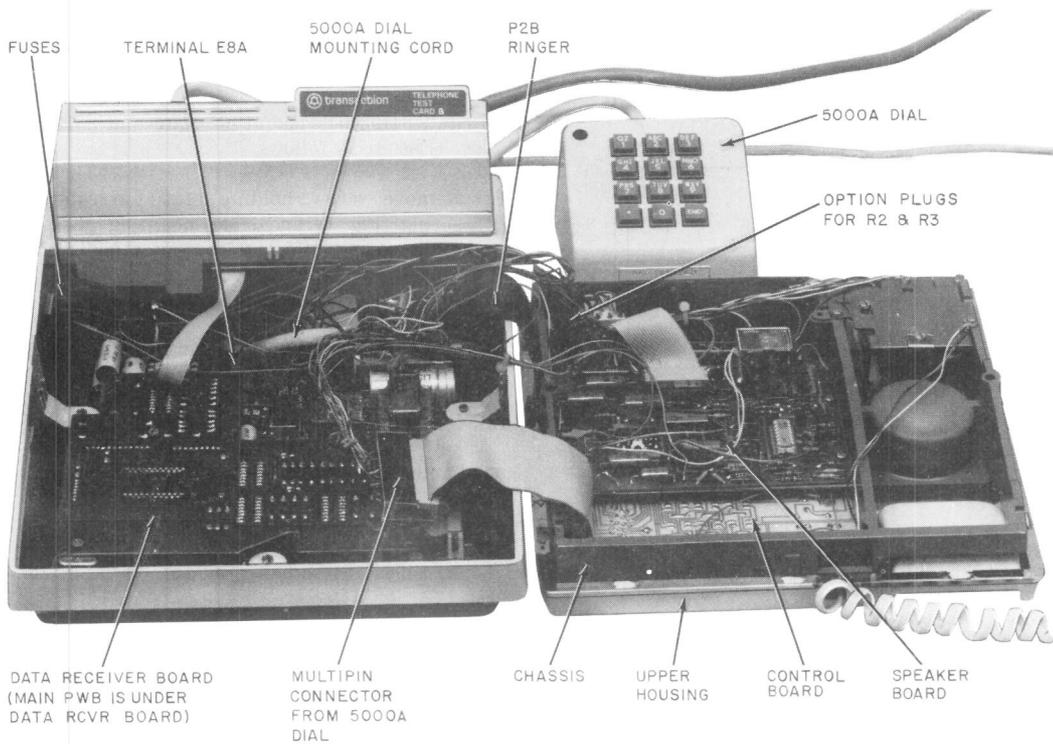
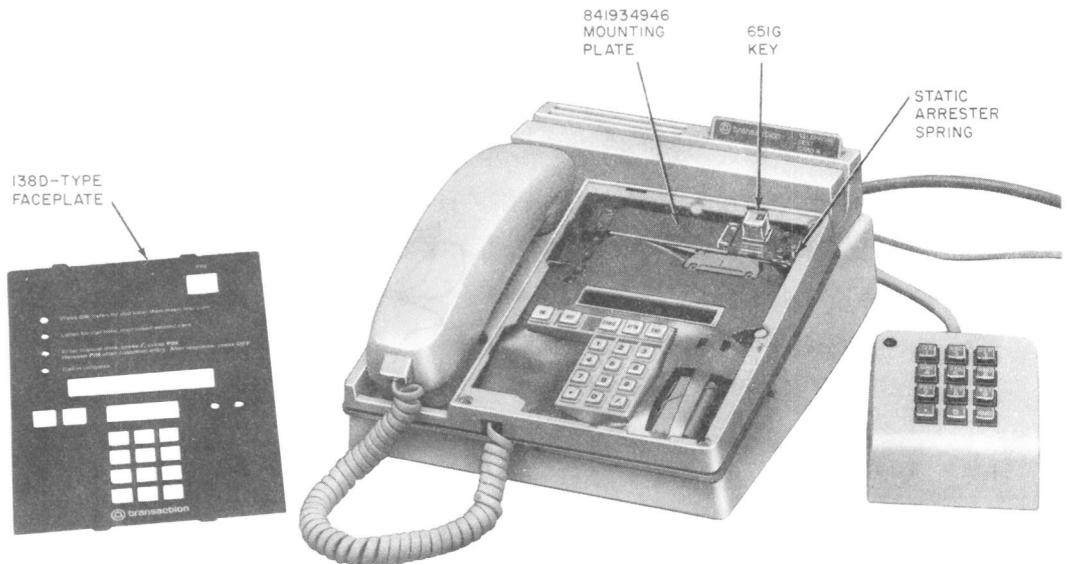

Fig. 6—5100AM Transaction II Telephone Set Base With Upper Housing and Chassis Laid Aside, 5000A Dial Connected
Fig. 8—5100AM Transaction II Telephone Set With Faceplate Removed for Installation of 651G Key
- (2) Install 841934946 mounting plate and 651G key (Fig. 8) as follows:
- (a) Remove screw holding static arrester spring (Fig. 8) and slide mounting plate under the spring. Replace the screw holding the spring and the associated lead. This should secure right side of mounting plate.
- (b) Secure left side of mounting plate with (2) 840694194 screws.
- (d) Secure right side of key using the other (2) 840694194 screws provided.
- (3) Install new 138D-type faceplate.
- (4) Open the set (3.07); lay the upper housing and chassis to the right (Fig. 6).
- (5) Hold the lower housing up on its side and feed the mounting cord of the dial through the cord entrance hole in the base pan. Using Fig. 6, make connections as follows: